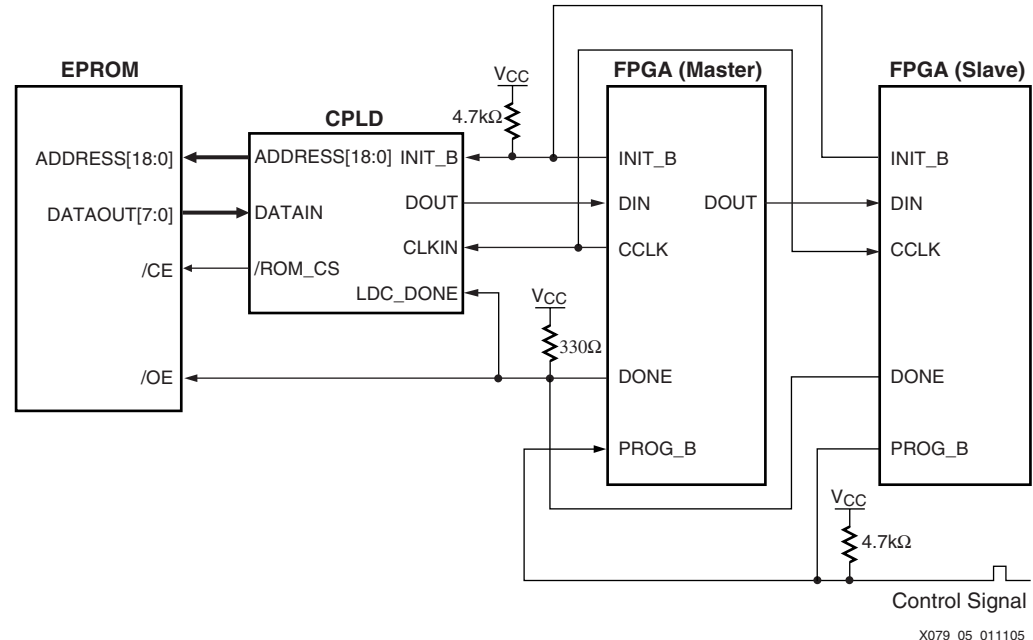

Figure 4-6: Configuring Virtex-II Pro Devices Using a CPLD and Parallel PROM
- XAPP079, *Configuring Xilinx FPGAs Using an XC9500 CPLD and Parallel PROM* (www.xilinx.com/bvdocs/appnotes/xapp079.pdf) describes an architecture that configures a chain of Virtex-II Pro devices using Master-Serial mode. See Figure 4-6 for an example of FPGA configuration using a CPLD and a parallel PROM.